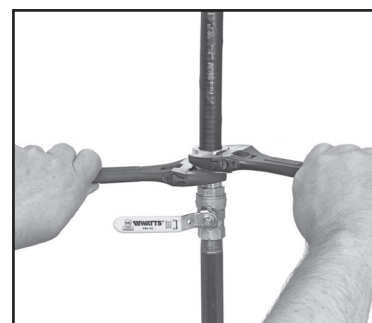

FIG. 7
STEP 5 WRENCH FITTING (FIG. 7)